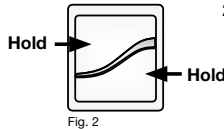

Fig. 2
2. Press and hold UP and DOWN buttons until the LED light turns amber (about 3 seconds) then release buttons. (Fig. 2)